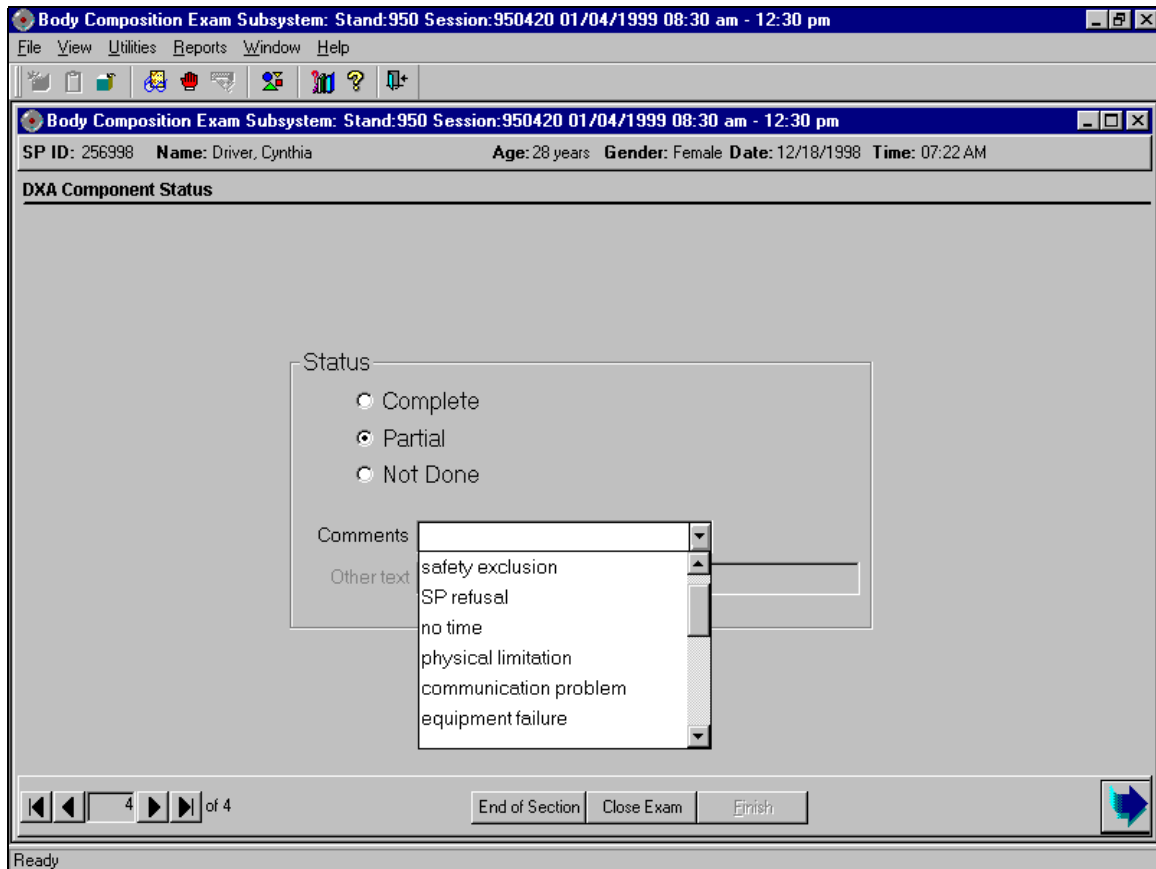

Figure 4-28. DXA component status (1)
- If the component status is 'Partial' or 'Not Done,' the system will require a comment to be selected from the drop-down menu. See Figure 4-28.